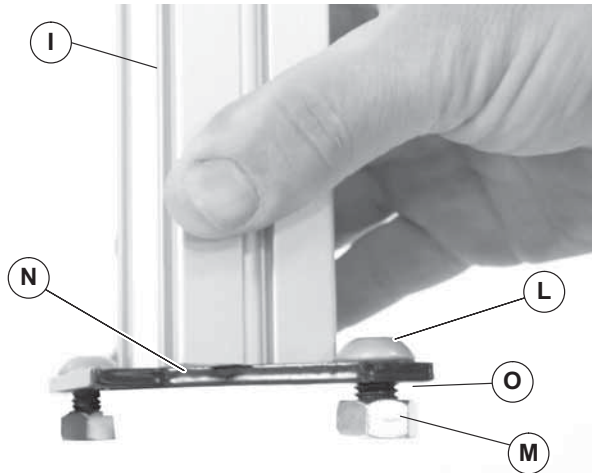

Figure 4
- Place a button screw (Figure 4, item L) through each hole in the end plate (N) of a leg tube (I). Attach a hex nut (M) to the screw. Leave a gap (O) between the nuts and end plate.